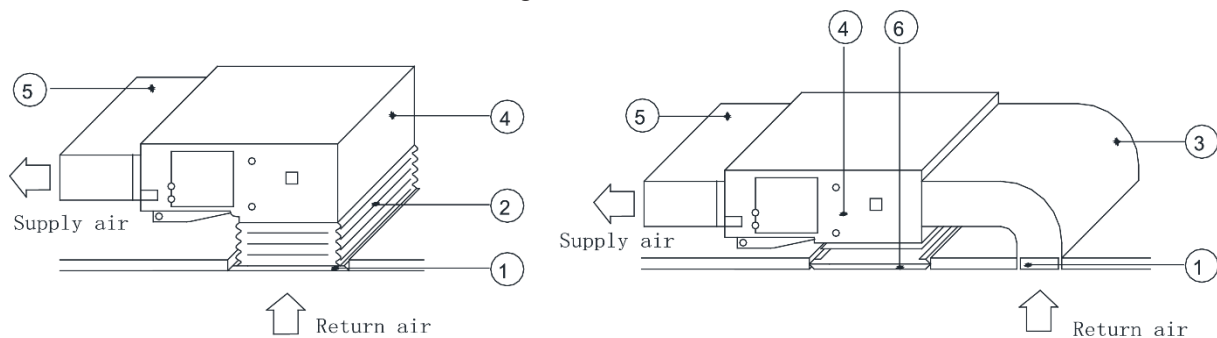

Fig 4.4.7
(5)The installation method can be chosen with considering the conditions of the building and maintenance etc., as shown in Fig 4.4.7.